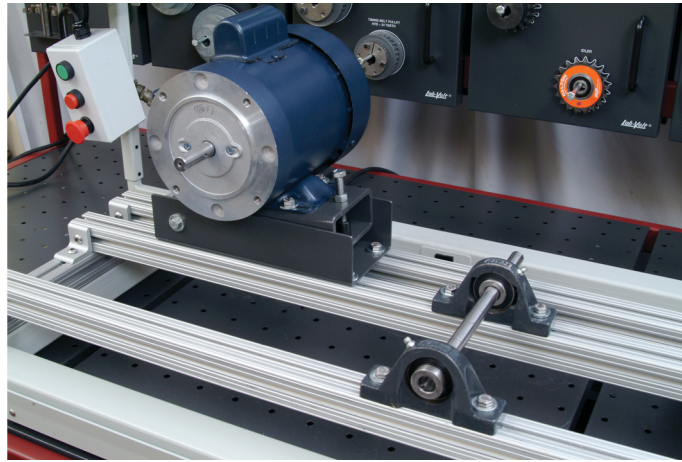

Figure 16. Current universal base setup.
- 41.** Dismount the sheaves and belt from the universal base but leave the rest of the setup as shown in Figure 16.